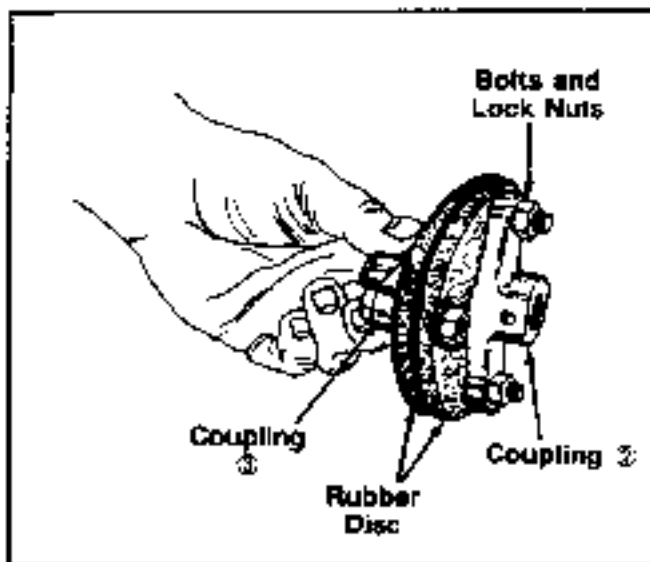

FIGURE 7.
9. Remove coupling ④, by removing two bolts and lock nuts. See figure 7.